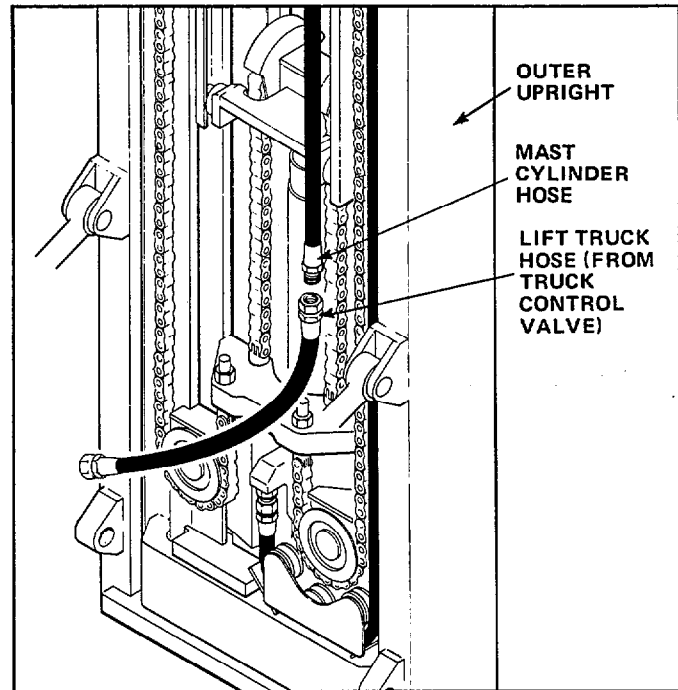

Figure 4. Cylinder and Truck Hose Connection
5. Connect the lift truck hose to the cylinder hose on the mast. See Figure 4. The lift truck hose can be SAE 100 R2 or R9. **NOTE:** Use as few fittings as possible and always use 45° elbows instead of 90° elbows. Keep the hose lengths to a minimum. Avoid sharp bends or pinch points when routing the hose.